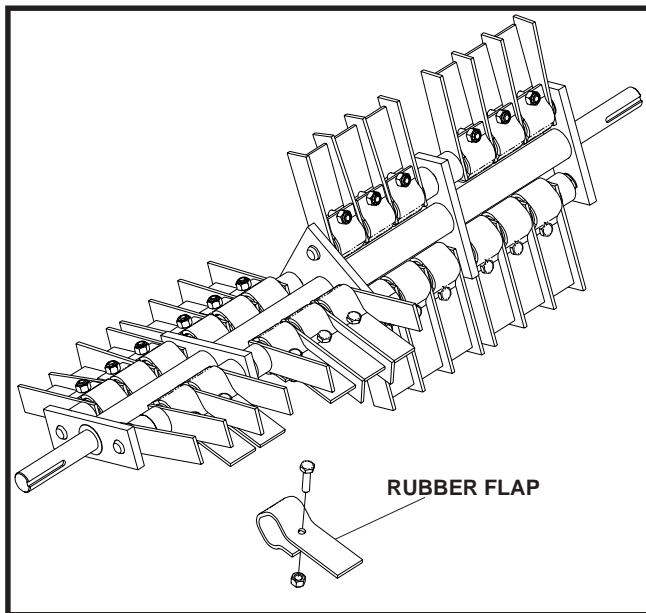

FIGURE 3
14. Install rubber flaps between flail blades on the rake shaft. See Figure 3. If this shaft is installed, you **DO NOT** have to remove the shaft from the unit to install the the rubber flaps.